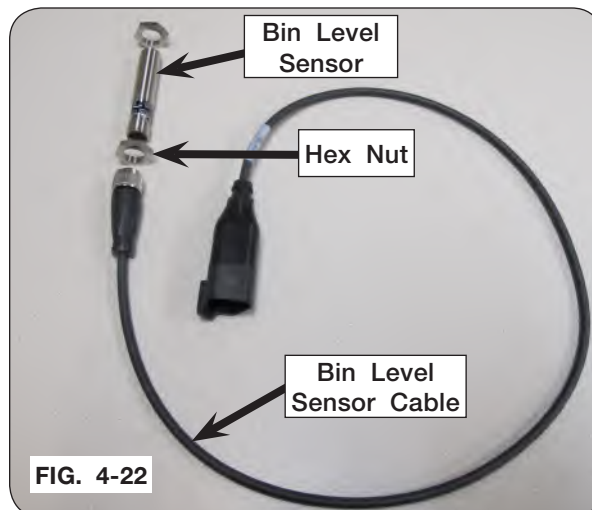

FIG. 4-22
NOTE: Fiber washer (9008810) is not shown in Figure 4-22.
2. Remove previous bin level sensor body and hardware from the Tri-Force/Quad-Force box. (FIG. 4-22)